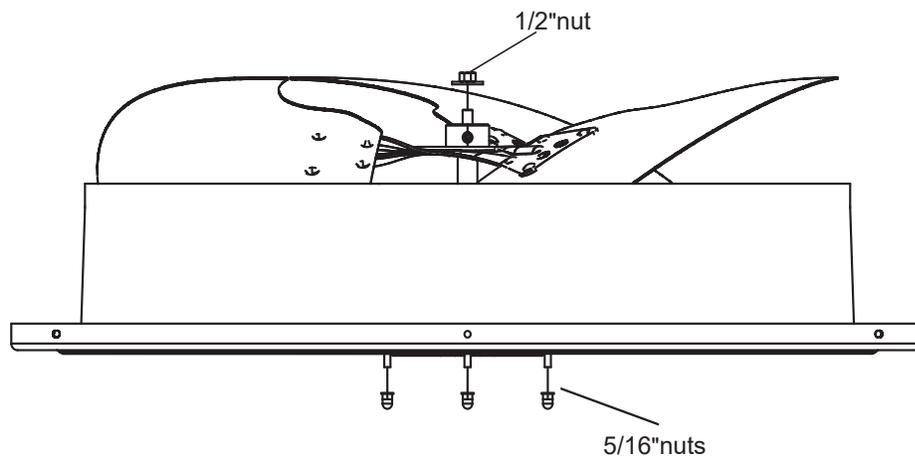

Figure 17-1
STEP 3 - Be sure to place fan cover unit on the grou (Fig.17-1).